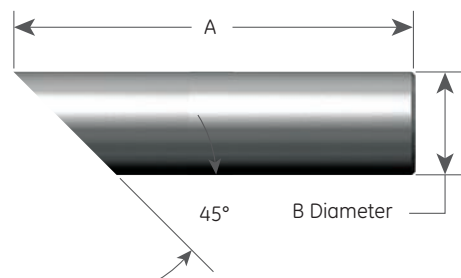

Figure 94: Drift Pin Specifications
4. Drift Pins: Two drift pins are required for the removal of the disc from the disc holder. Refer Figure 94 and Table 21 for Drift Pin specifications.